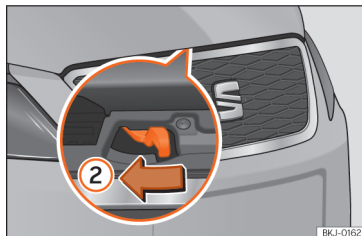

Fig. 169 Lever under the bonnet.
- To lift the bonnet, press towards the left on the lever located under the bonnet, in the centre »» **Fig. 169** ②. The fastening hooks are unlocked.